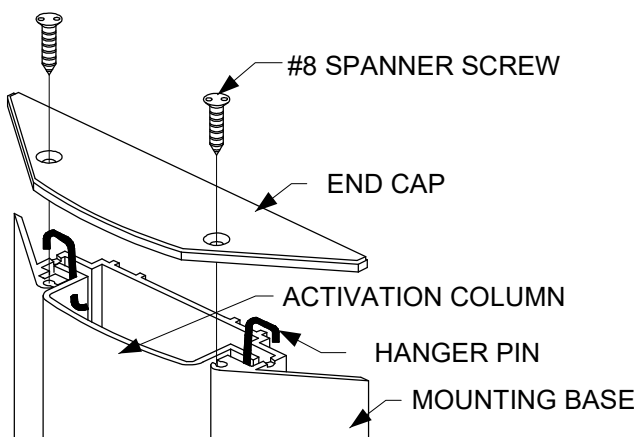
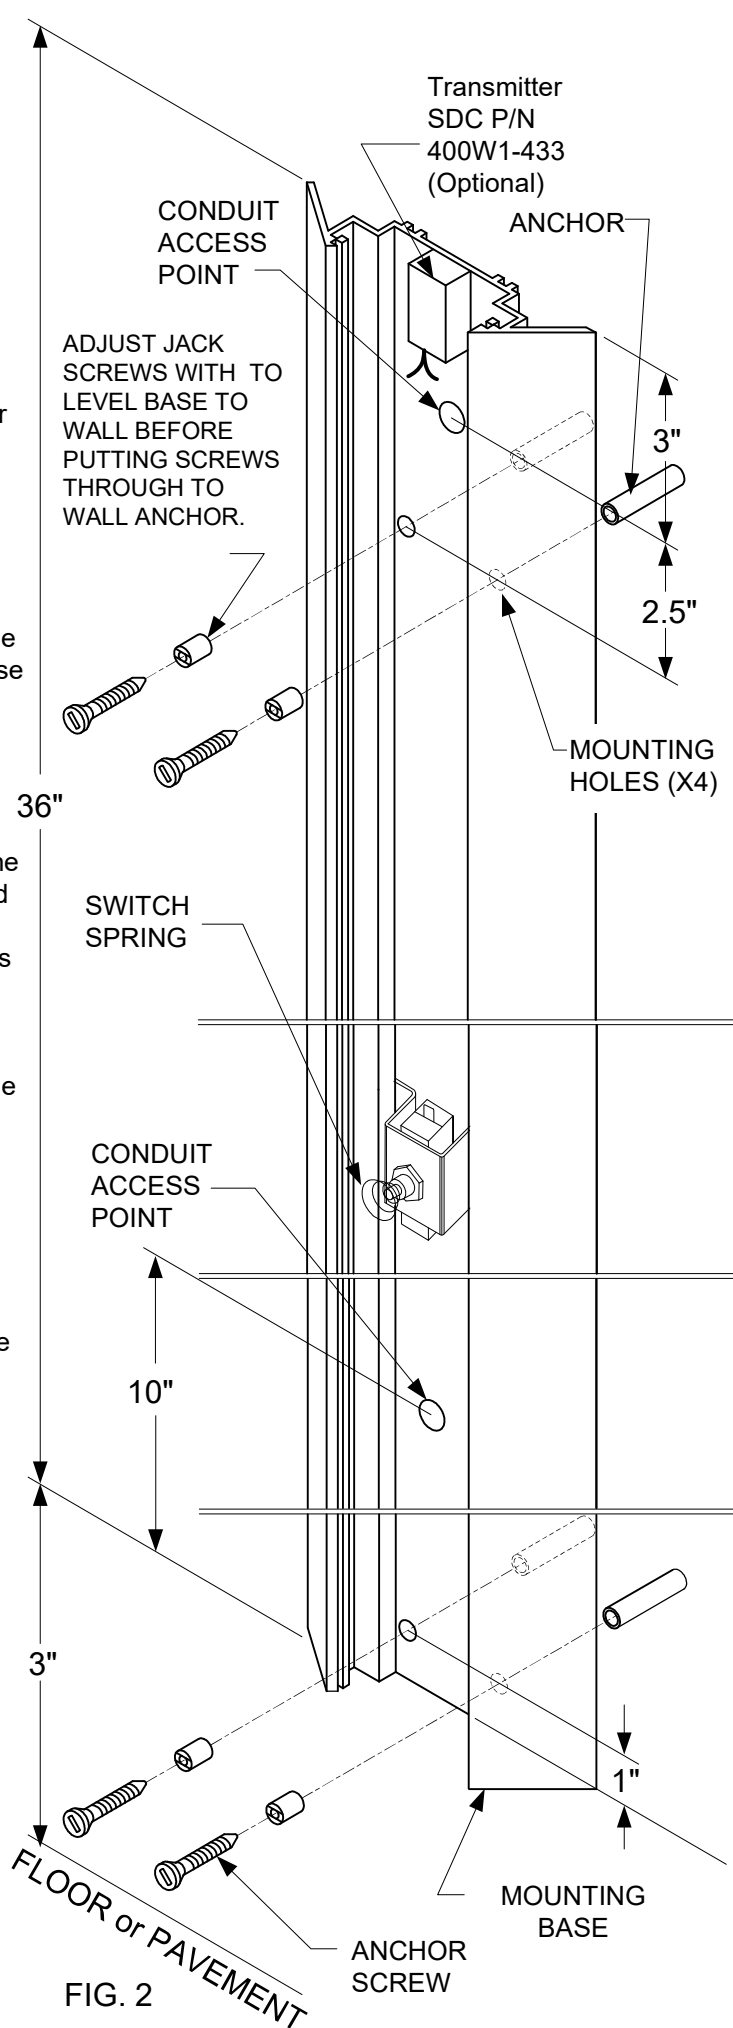

FIG. 1
FIG. 2
1. Remove Spanner Screws from the End Cap. NOTE:- SPECIAL TOOL NEEDED - #8 Spanner screwdriver bit. Slide the Activation Column out of the Mounting Base. (See FIG. 1)
2. This unit is not designed to mount to a junction box. Use the enclosed hardware to mount directly to a vertical surface. Conduit access points (2) in the base are located at typical site conditions for wiring convenience.
3. Mounting Options (See FIG. 2):
Wireless Transmitter: Use the supplied wire nuts to connect the wires from the Switch Harness to the Transmitter activation wires. Use double-sided tape to secure Transmitter to the upper portion of the Mounting Base. (See FIG. 2)
7. Slide the Activation Column back into the Mounting Base. Compress the Switch Spring as the Actuator passes the switch. The Hanger Pins should rest in the slots at the top of the Mounting Base (see FIG. 1).
8. Position the End Cap onto the top of the Mounting Base. Attach with the previously removed spanner security screws (see FIG. 1).